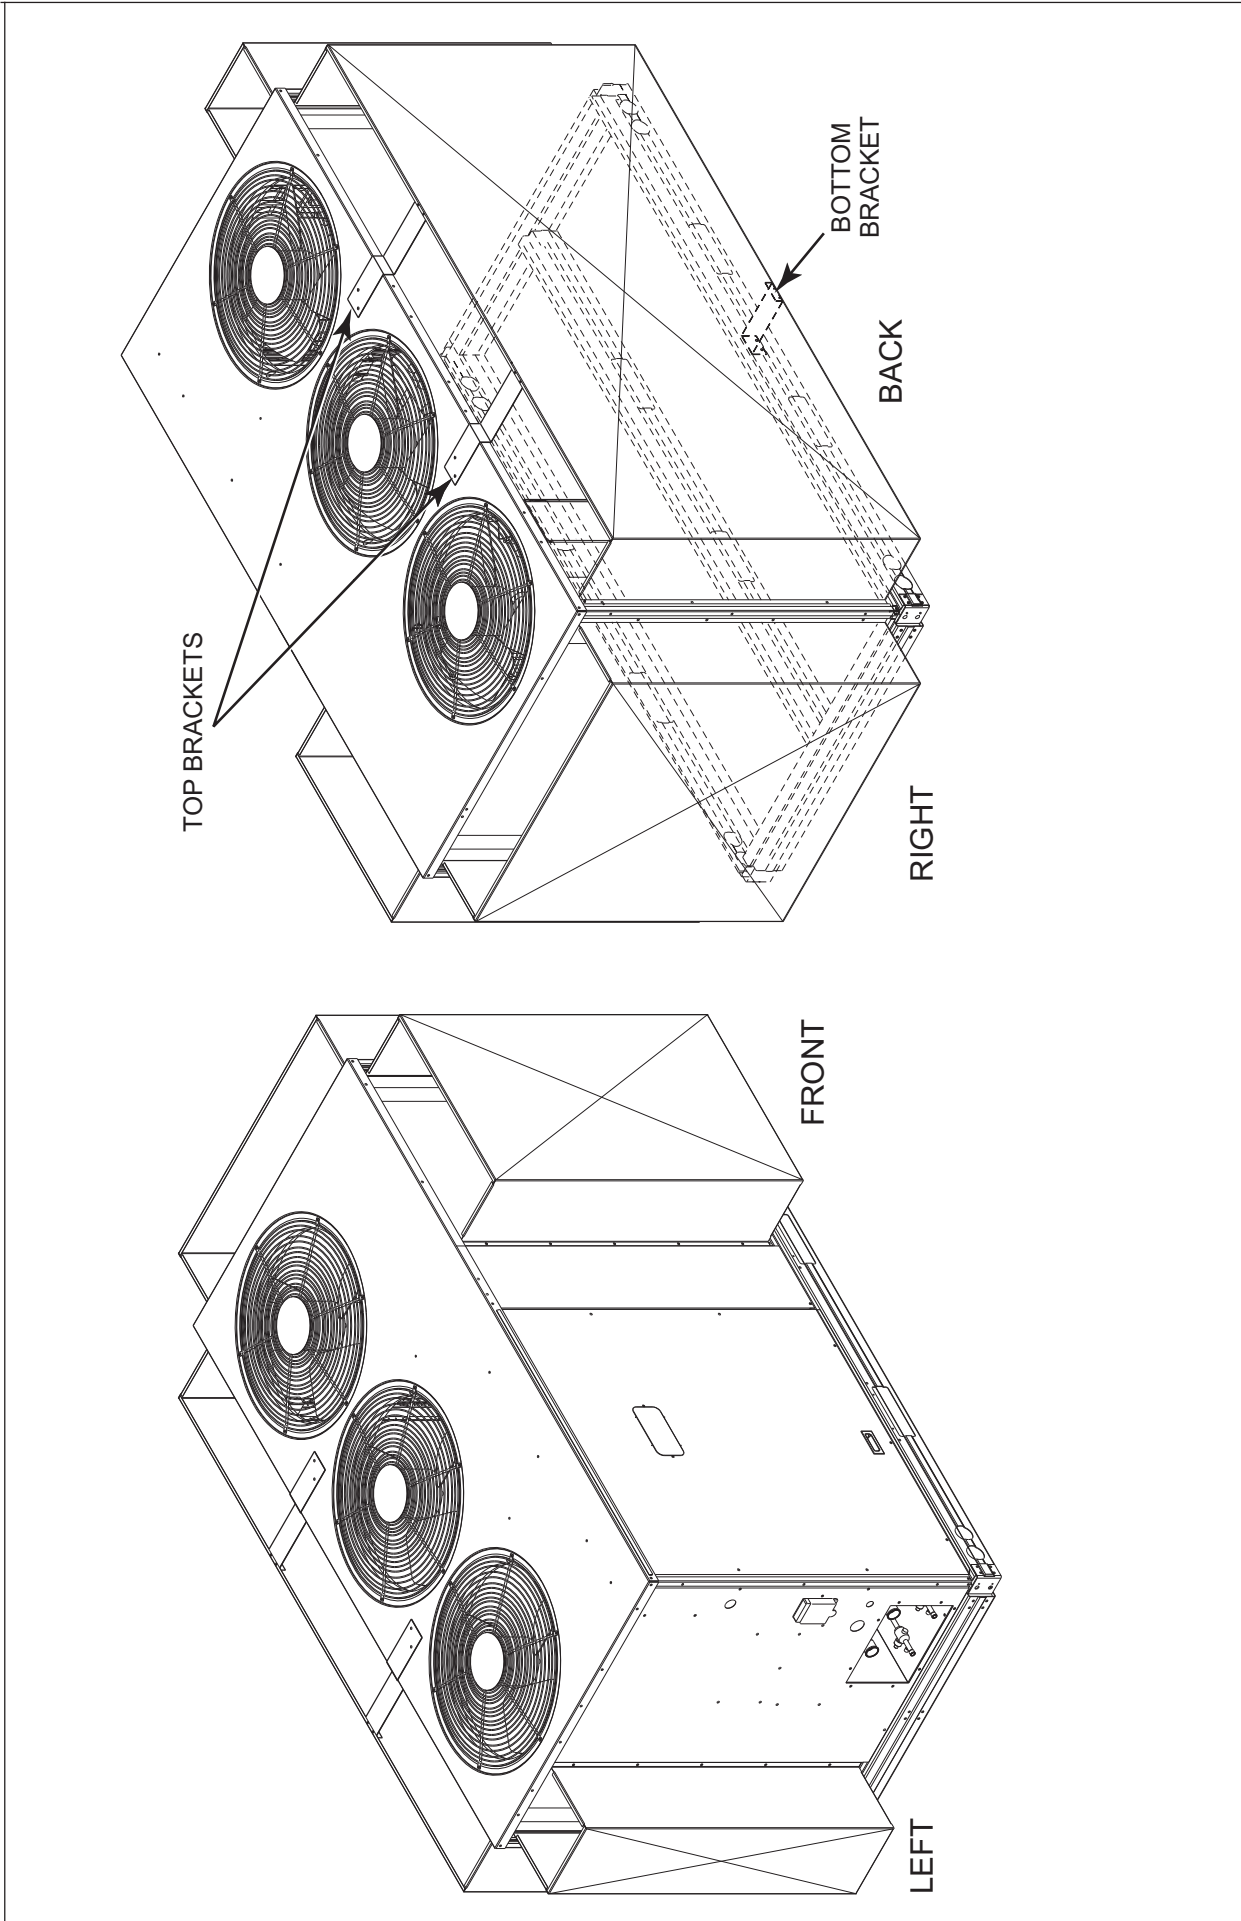

Fig. 36 - Wind Baffle Installation — 52.7 kW Units
- Install the wind baffles as show in Fig. 36, for the size 16 units and Fig. 37, for the size 25 units .